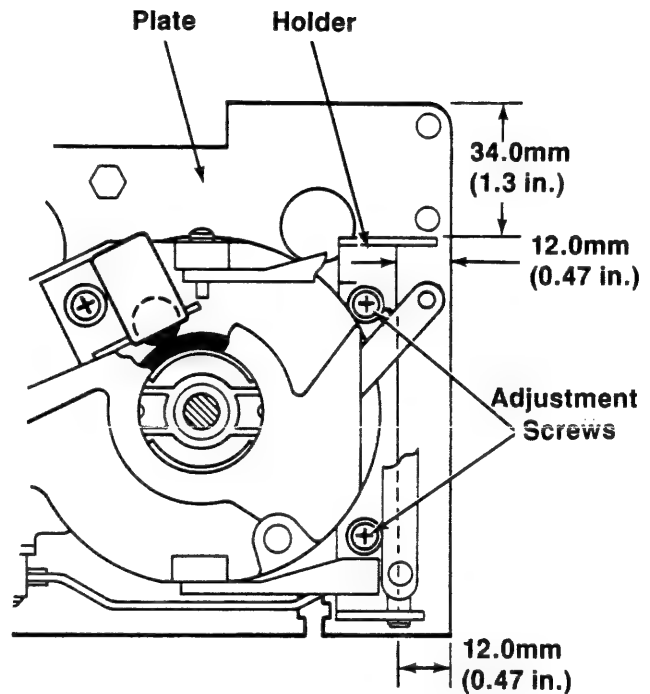

Figure 3-17A
4. Place the B dimension 34.0mm (1.3 in.) between the top of the Plate and top of the Holder (Figure 3-17A). The edges of the gauge should be in the same plane as the Plate and Roller.